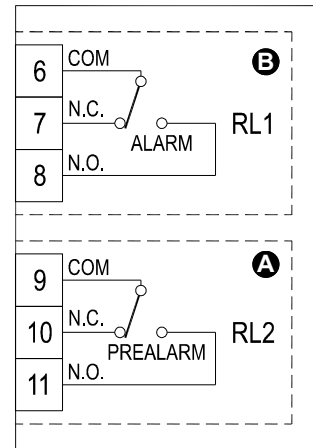

Fig. 6.
The PRE-ALARM (A) and ALARM (B) outputs are tension-free exchange commands and can be used both for piloting generic loads like a siren or a flashing light, or according to the set system, a solenoid valve for gas interception. See the wiring diagram of Fig. 6. For more information, read carefully the instruction manual of the gas transmitter.